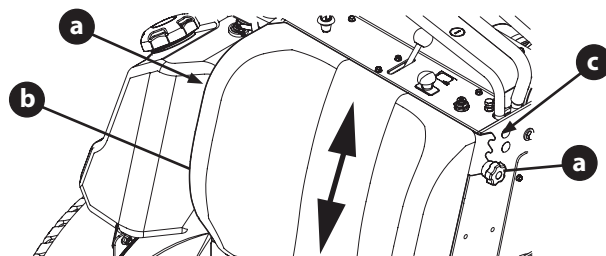

Figure 6
1. Loosen the two star knobs (a) securing the leg pad (b) to the mower (Figure 6).
3. Reposition the leg pad into one of three height positions (c) (Figure 6).